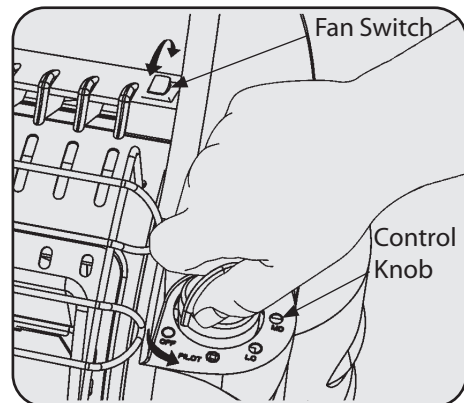
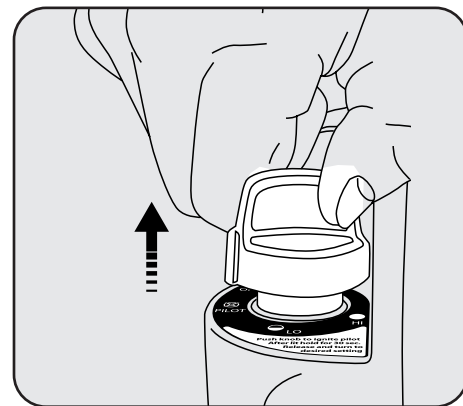

Figure 3
Figure 6
2. Make sure four-position Control Knob is in "OFF" position. See Figure 3.
6. After lighting pilot, release knob. Knob should return to fully extended position. See Figure 6. (If needed, repeat these steps until pilot lights).
8. After left burner tile has turned bright orange, adjust heat output by turning control knob to desired position ("LO", "MD" or "HI"). Note: Both tiles turn orange only on HI setting. **(2) 1 LB. propane bottles are needed to use heater in (HI) position.**
9. For added heat circulation turn red fan switch to on. The fan switch is located just left of control knob side handle support. See Figure 3.
2. Make sure five-position Control Knob is in "OFF" position. See Figure 3.
9. After lighting pilot, release knob. Knob should return to fully extended position. See Figure 6. (If needed, repeat these steps until pilot lights).
12. For added heat circulation turn red fan switch to on. The fan switch is located just left of control knob side handle support. See Figure 3.